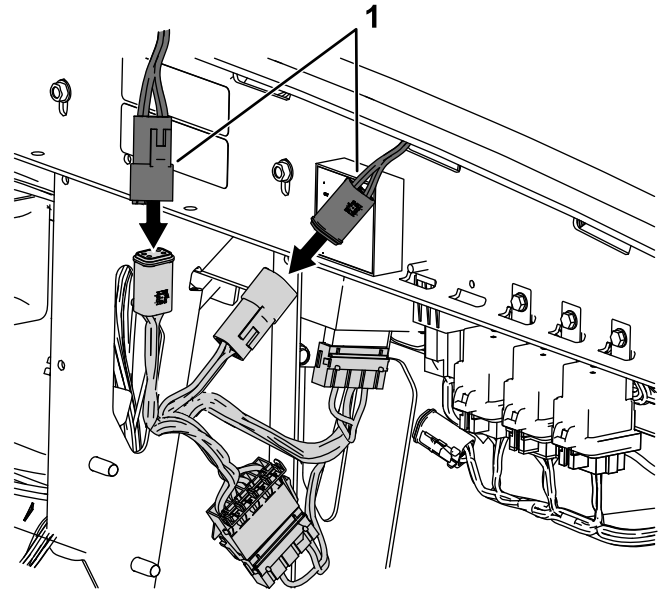

Figure 30
5. Connect the loose square plug on the power converter wire harness to the cab adapter wire harness (Figure 30).
6. Connect the loose square socket on the power converter wire harness to the cab adapter wire harness (Figure 30).